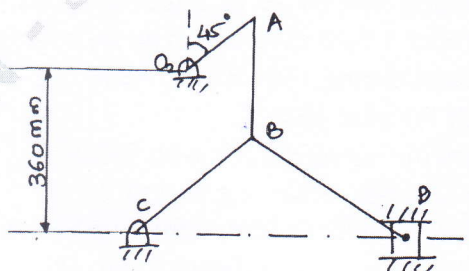

Fig.Q.4(b)
- b. Locate all the instantaneous centres for the toggle mechanism shown in Fig.Q.4(b). (12 Marks)